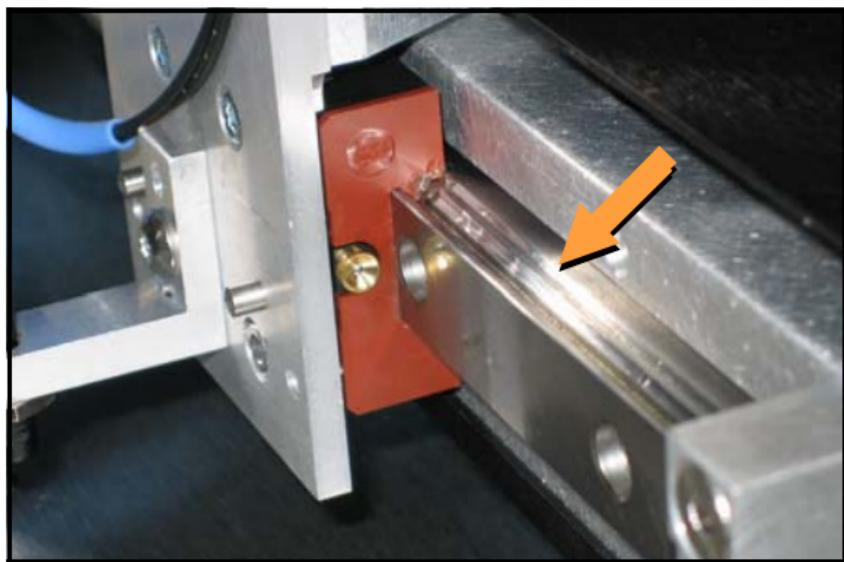

Figure 12—Apply lube to the V-groove on the Y-axis rail
5. Since the holes on the top side are not accessible, apply the lube generously to the upper V-groove with a soft, lint-free cloth. See Figure 12.